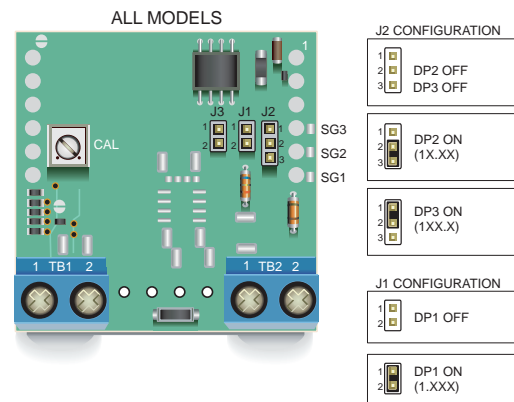

Figure 6. Decimal Point Selection Using J2 and J1 (Applies to All Models)
7. **Decimal Point Selection:** As shown in the Ordering Information guide, DCA5-20PC ammeters are multiple input-range devices. For example, with a 50mV input, DCA5-20PC-1-DC1 models can be configured to display "5.00", "50.0, or "500" Amps by simply removing or relocating decimal-point-selector jumper J2 (see Figure 6). Decimal points serve as placeholders only; they have no affect on displayed accuracy or resolution. If jumper J2 is not available, solder gaps SG1, SG2, or SG3 can be used to select DP1 ("1.XXX"), DP2 ("1X.XX"), or DP3 ("1XX.X"), respectively.